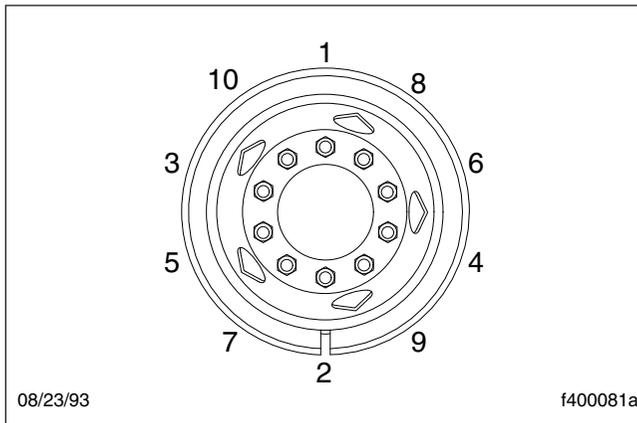
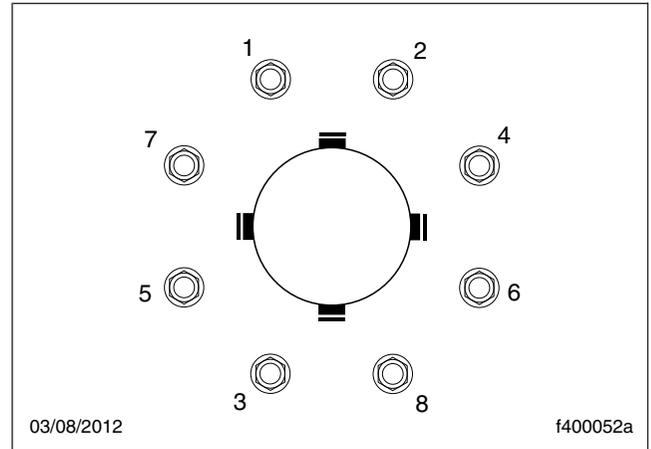

Fig. 12.10, Tightening Pattern, 10-Stud Disc Wheels
Fig. 12.11, Tightening Pattern, 8-Stud Disc Wheels
- 20.3 Make sure all wheel nuts are tightened. If tightening is necessary, use the tightening pattern in Fig. 12.10 for 10-stud disc wheels and Fig. 12.11 for 8-stud disc wheels to initially tighten the flange nuts to 50 to 100 lbf-ft (68 to 136 N-m). Then tighten the flange nuts to 450 to 500 lbf-ft (610 to 678 N-m).